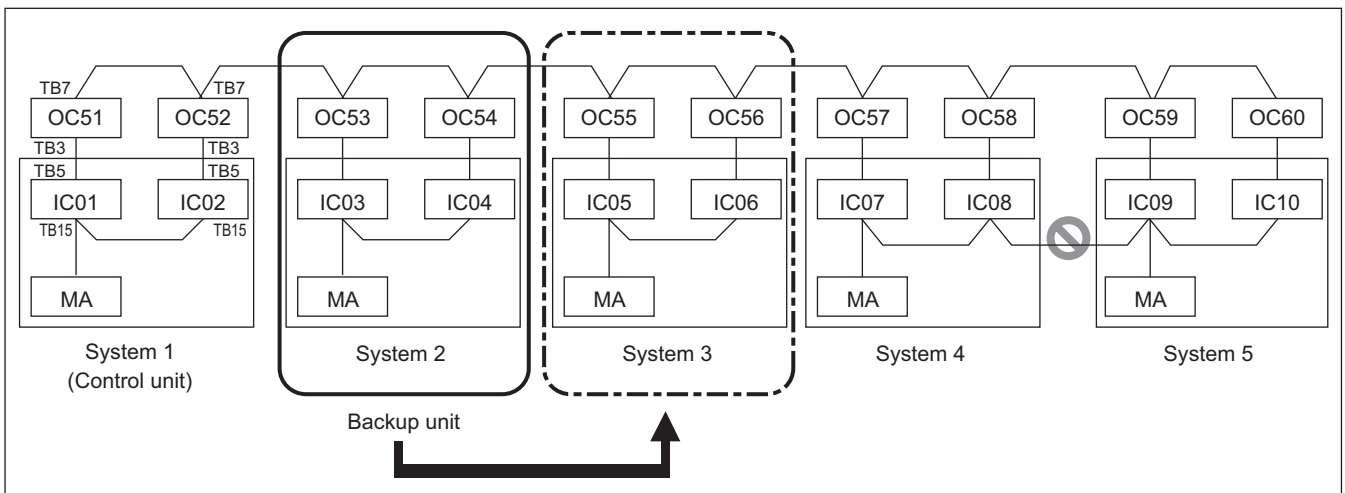

Figure 1 Sample 20HP system group
- The unit designated as the control unit (System 1 in Figure 1) sends command signals to other units in the group to start or stop, and rotates the backup unit every 480 hours.
- Rotation sequence is in the ascending order of address, starting from the lowest address after the control unit address. (e.g., System 2 -> System 3 -> System 4 -> System 5 -> System 1 in Figure 1 below)
- 4) Assign sequential addresses to the units as shown below (Figure 1 and 2).